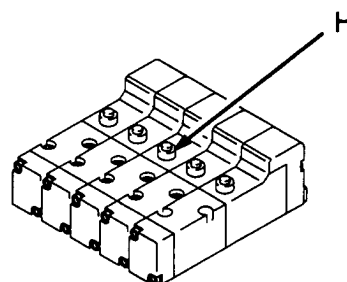

Fig 12
2. Press the manual override button (H) on the solvent solenoid valve, which is inside the Precision Mix™ solenoid enclosure. Refer to Fig 12.